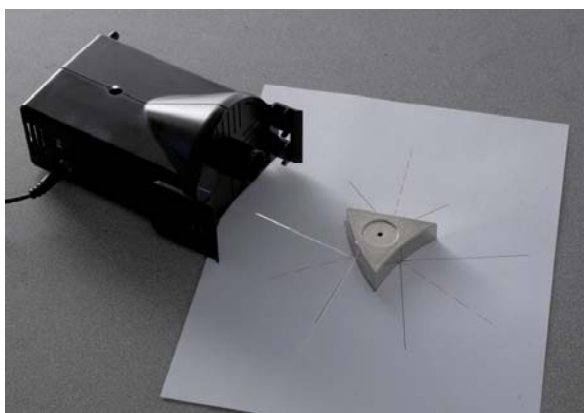

Figure 8: Convex Mirror Reflection
1. Adjust the position of the light source so the single light ray now hits the concave mirror at the point the normal line extends from the outline as in Figure 8.
2. Use the ruler and pen or pencil to trace the paths of the incident and reflected light rays. Label each line "Ray 1 Incident" or "Ray 1 Reflected" similar to Figure 8 to help differentiate them.